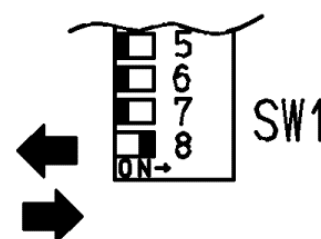

Fig. 6
13. Move switch No. 8 of SW1 to 'OFF' position and then back to 'ON' position. (Fig. 6)